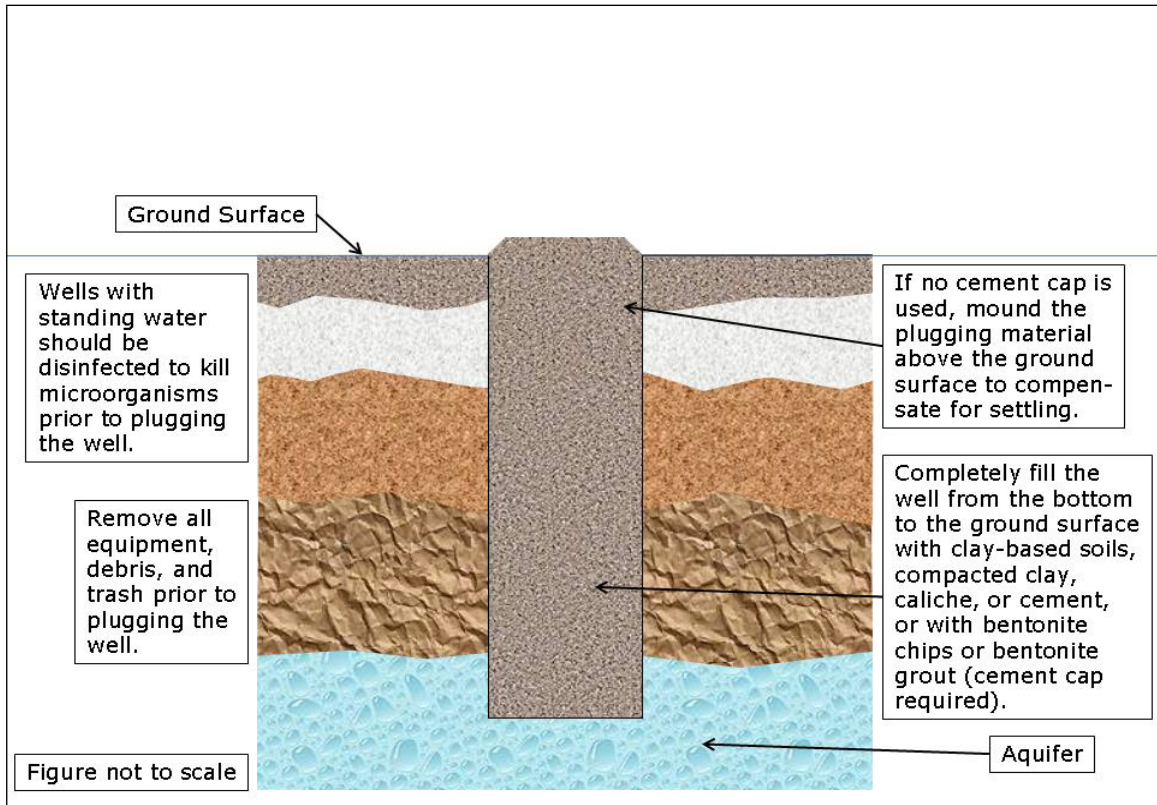
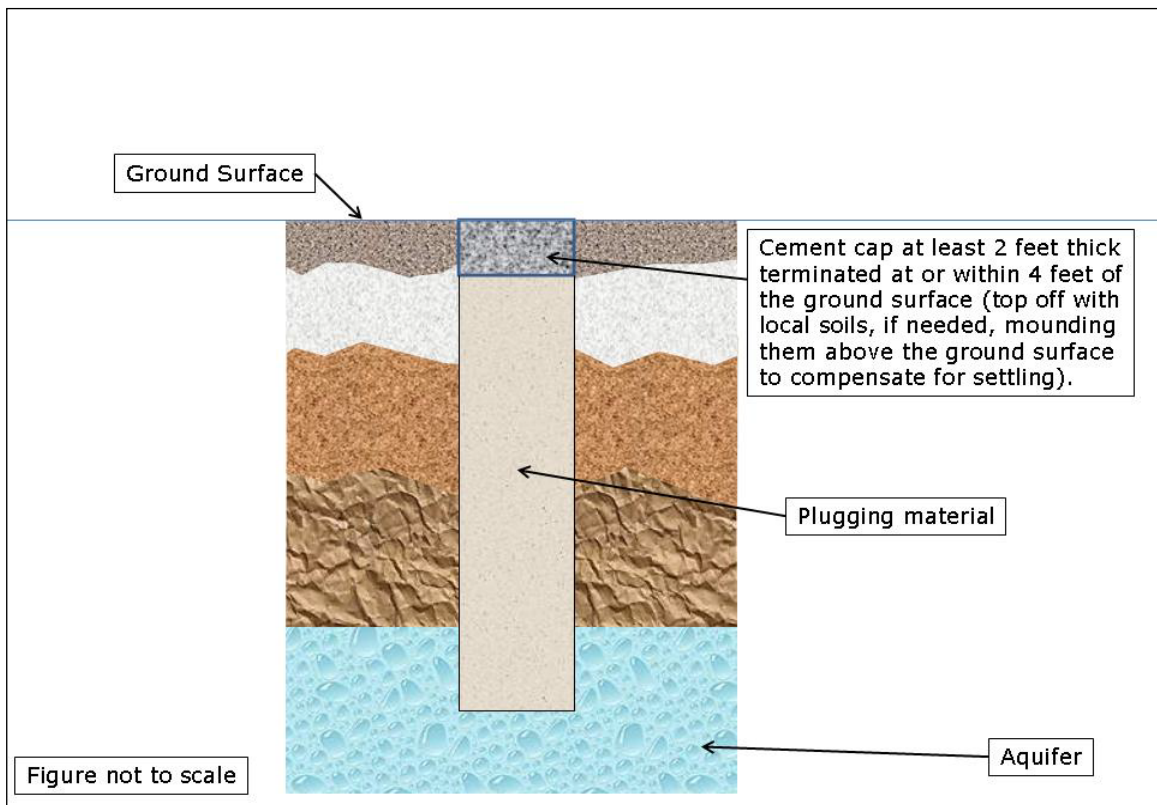

Figure 1. Plugged Large-Diameter Well
Figure 2. Plugged Well Using Bentonite Chips or Bentonite Grout
Completely fill the well from the bottom to the ground surface with clay-based soils, compacted clay, caliche, or cement (see Figure 1), or with bentonite chips or bentonite grout (cement cap required; see Figure 2).
- If using bentonite chips or bentonite grout, the plug must be capped with cement at least 2 feet thick. The cement cap acts as an atmospheric barrier (see Figure 2) and can be positioned in either of two ways:
- If using bentonite chips or bentonite grout, the plug must be capped with cement at least 2 feet thick. The cement cap acts as an atmospheric barrier (see Figure 2), and can be positioned in either of two ways:
- If using bentonite grout, the plug must be capped with cement at least 2 feet thick. The cement cap acts as an atmospheric barrier (see Figure 2), and can be positioned in either of two ways: